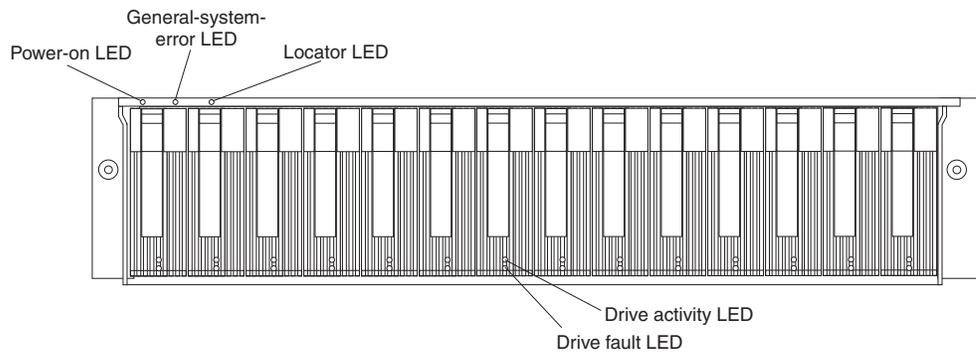

Figure 35. Storage server LEDs (front)
- Figure 35 on page 43
Each drive CRU has two LEDs, which indicate the status for that particular drive. For information about the drive LED operating states and descriptions, see Figure 35 on page 43 and Table 10 on page 43.